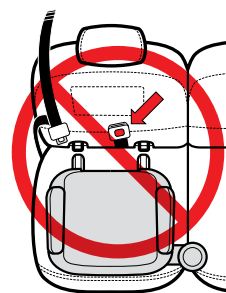
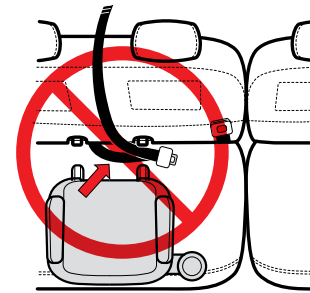

Figure 26
Figure 27
- DO NOT USE LATCH CONNECTORS TO SECURE THIS BOOSTER SEAT TO THE VEHICLE’S LATCH ANCHORAGE SYSTEM IF THE SEAT BELT OR SEAT BELT BUCKLE IS NOT EASILY ACCESSIBLE WITH THIS BOOSTER SEAT LATCHED IN PLACE OR IF THE VEHICLE SEAT BELT BUCKLE IS LOCATED IN BETWEEN THE LATCH ANCHORS, AS SHOWN IN **FIGURE 26**. OR IF THE VEHICLE SEAT BELT IS LOCATED IN BETWEEN THE LATCH ANCHORS, AS SHOWN IN **FIGURE 27**.